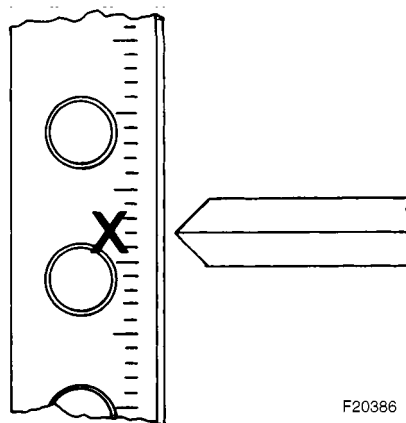

Figure 7-20. Limit Of Piston Travel Marked On Flywheel
5. Mark the position of the flywheel pointer on the flywheel, Figure 7-20., on page 7-37.